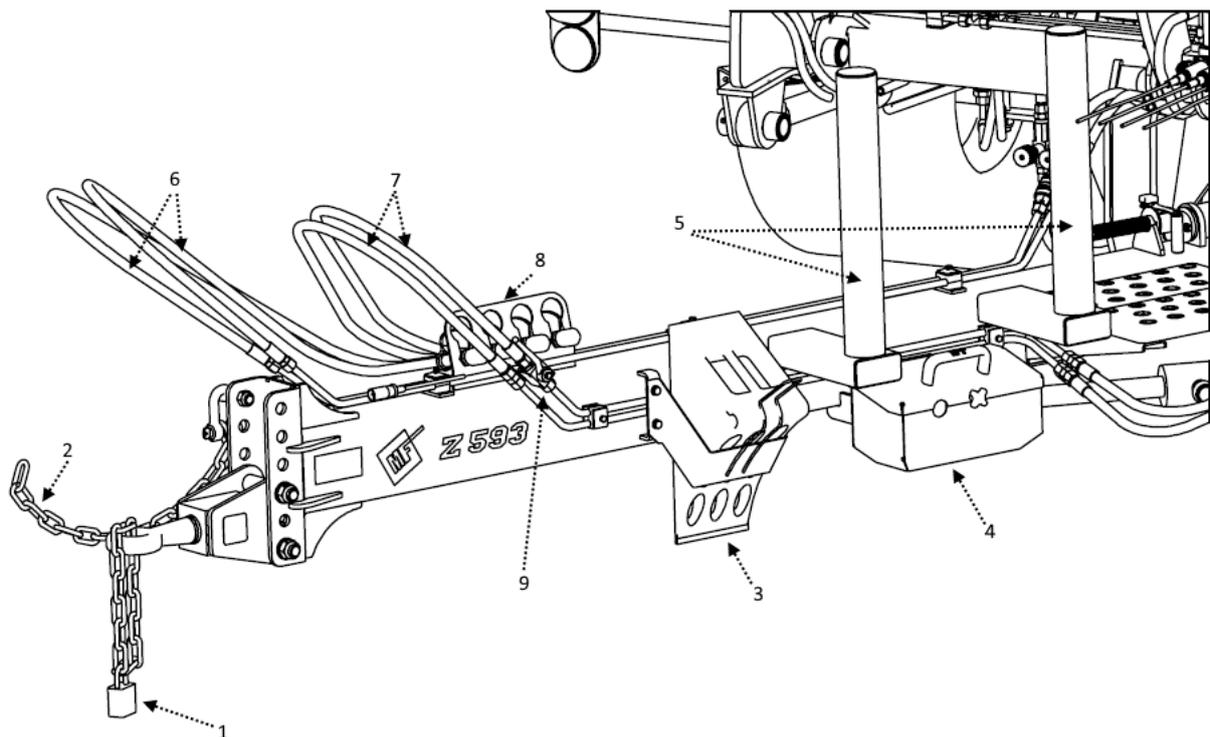

Figure 10. Drawbar components
- Disconnect both the power-supply and lighting systems, wind the wires up. and put them away in a container in the Bale Wrapper's drawer (**Fig. 10 – 4**).
- Disconnect the power hydraulics system and protect the hydraulic hoses in their clamps on the Bale Wrapper's drawbar (**Fig. 10 – 8**).
- Make sure that there is no risk of accidental machine displacement, and insert a wheel chock if necessary (**Fig. 10 – 3**).
- Fit the drawbar eye with the protection against unauthorised use (**Fig. 10 – 1**).
Key for the Z593 Bale Wrapper's drawbar components (Fig. 10)